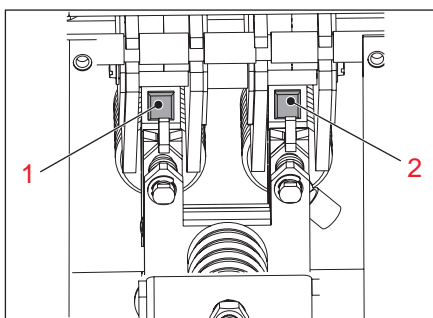
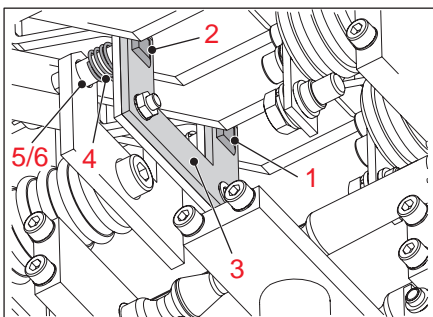

Figure 12
Figure 13
3. Check silver contact surfaces on the main contacts ZS (1) and WA (2) as well as on the main contact bridge (3), see **Figure 12** and **Figure 13**:
- In the case of burned off contacts replace the complete main contacts ZS (1) and WA (2) and the main contact bridge (3), refer to section “**Replace main contacts ZS and WA**” on **page 21** and “**Replace main contact bridge and pressure springs**” on **page 22**.
4. Check spring mechanism (4) of the main contact bridge (3) for ease of movement, see **Figure 13**.
- When the main contact bridge (3) sticks, clean the bearing spots (5) and the axles (6).
5. Check pressure springs (4) for spring break and fatigue.